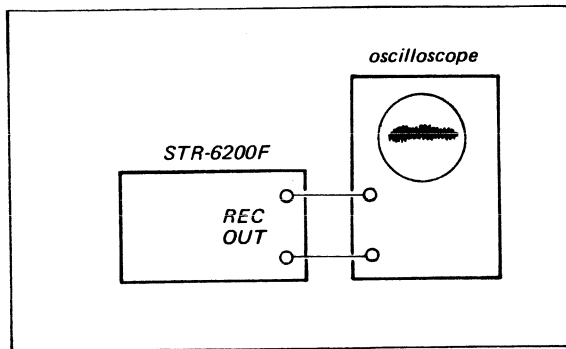

Fig. 3-5 Discriminator alignment test setup
1. With the equipment connected as shown in Fig. 3-5, set the receiver's control as follows: